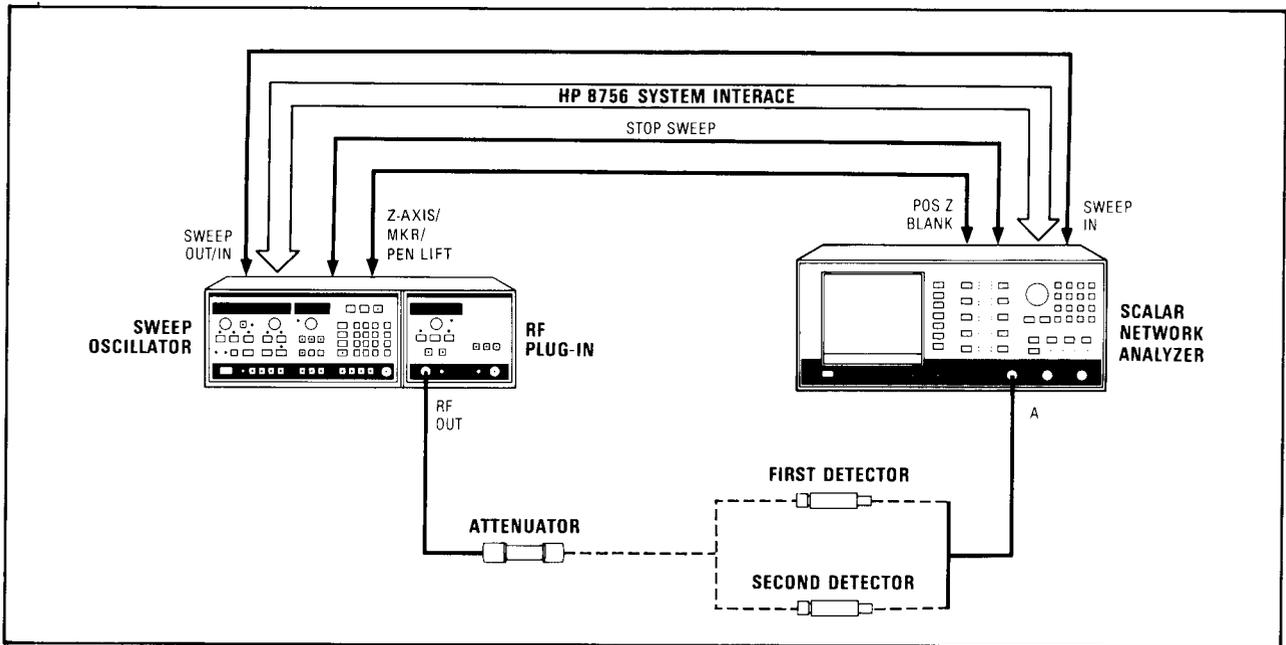

Figure 4-8. Tracking Test Setup
1. Connect equipment as shown in Figure 4-8. Press **[PRESET]** on the HP 8756A. This will preset both the HP 8756A and the HP 8350B (this will also turn the HP 8350B **[MOD]** on and set the sweep rate to 200ms). Set the source power level to 0dB and allow 30 minutes warm-up.